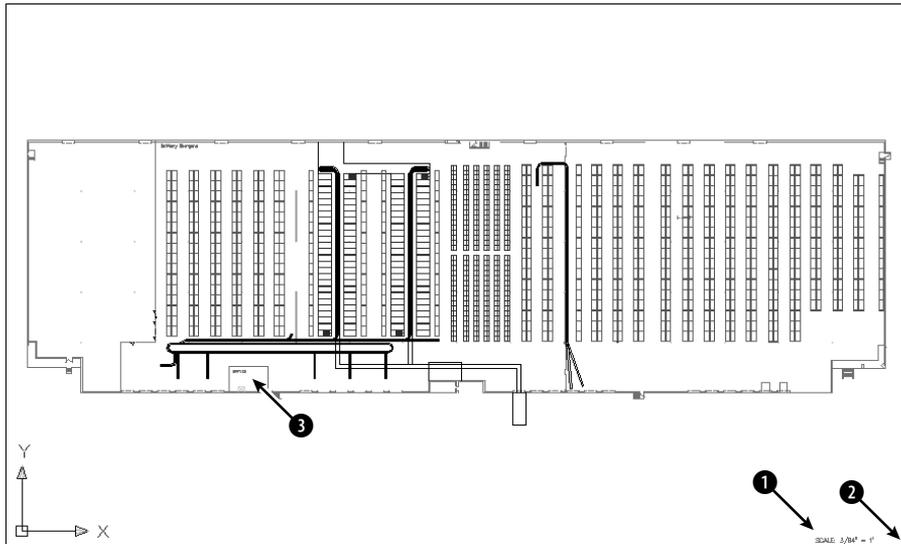

Figure 8-5: A drawing of a large warehouse, with shelving and conveyor belts.
1. Open `ab08-b.dwg` from the CD-ROM. This is a drawing of a warehouse, as shown in Figure 8-5.
3. At the Specify first corner: prompt, pick **1**, as shown in Figure 8-5. At the Specify opposite corner: prompt, pick **2**. AutoCAD or AutoCAD LT zooms in to display the window you specified, as shown in Figure 8-6.
7.  Choose Zoom Center from the Zoom flyout. At the Specify center __point: prompt, pick **3** in Figure 8-5. At the Enter magnification or height <5315.176>: prompt, type **500** ↵. You zoom in on the office.